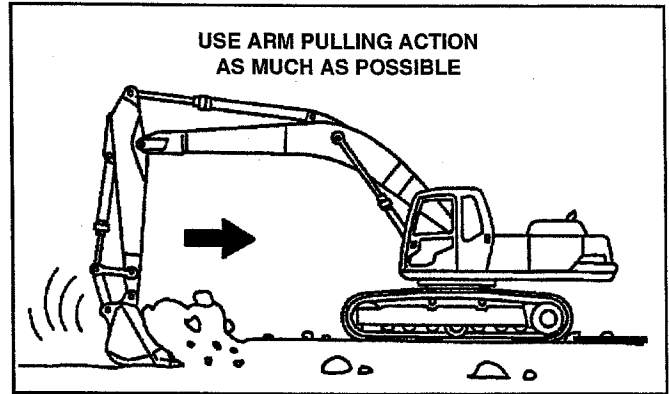

FIGURE 3.41
A. Use Arm Pulling Action- FIGURE 3.41